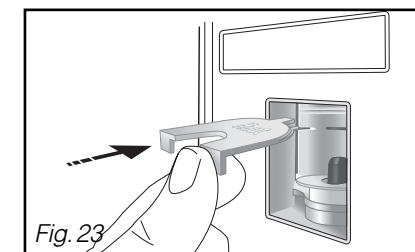

Fig. 23
- Clip the deflector with the top of the pump (Fig. 23).